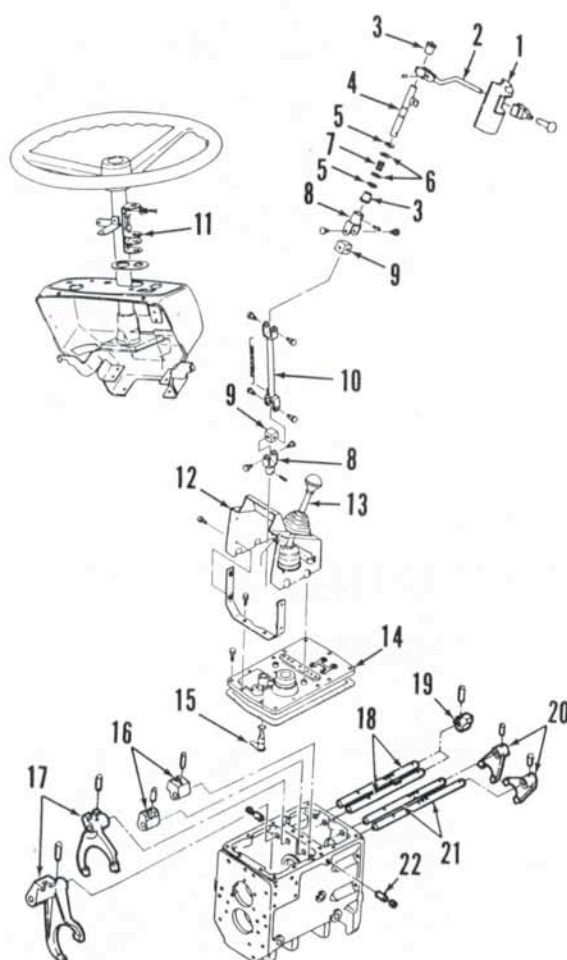

Fig. 215—Exploded view of shift linkage used on 1310, 1510, 1710, 1910 and 2110 models equipped with synchromesh transmission.
131. To remove transmission, first drain oil from housings. Separate engine from clutch housing as outlined in paragraph 101. Disconnect clutch control rod from release shaft arm. Disconnect foot throttle control rod and brake control rods. Remove brake cross shaft and pedals as an assembly. Remove both foot step plates. Remove console cover (12—Fig. 215) and disconnect main transmission shift rod (10) at the lower U-joint (8). Remove fuel tank, steering gear and instrument panel with shifter controls. Unbolt and remove clutch housing from transmission housing.
132. To disassemble transmission, remove safety wires from shift forks and drive roll pins from shift forks (17 and 20—Fig. 215), bosses (16) and neutral start switch magnets (19). Remove the magnets from main shift rails (18). Slide main gear shift rails out rear of housing while withdrawing upper shift fork. The lower shift fork can
Drive roll pins from shifter forks (17 and 20—Fig. 215), bosses (16) and safety start switch magnets (19). Remove magnets from main shift rails (18), then slide shift rails out rear of housing and withdraw upper shift fork. The lower